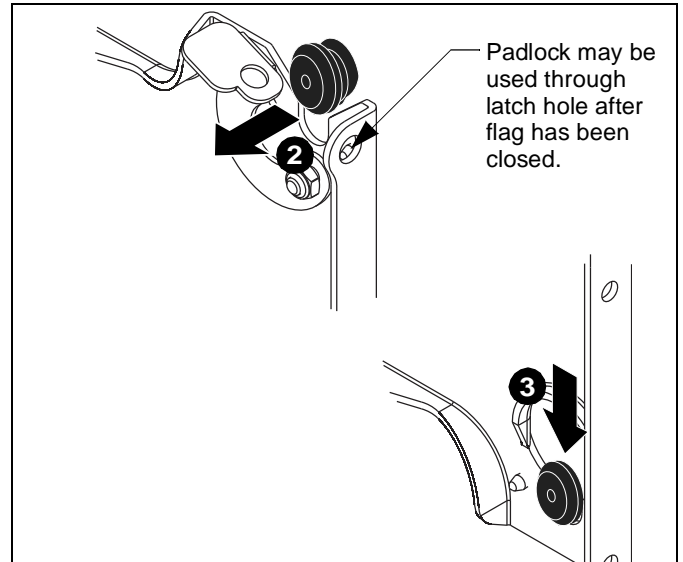

Figure 9
3. Lower display into place ensuring recessed area of mounting buttons are properly seated in lower area of mounting holes. (See Figure 9)
NOTE: Holes are provided in the faceplate for use with a padlock or similar locking device, if desired. (See Figure 9)